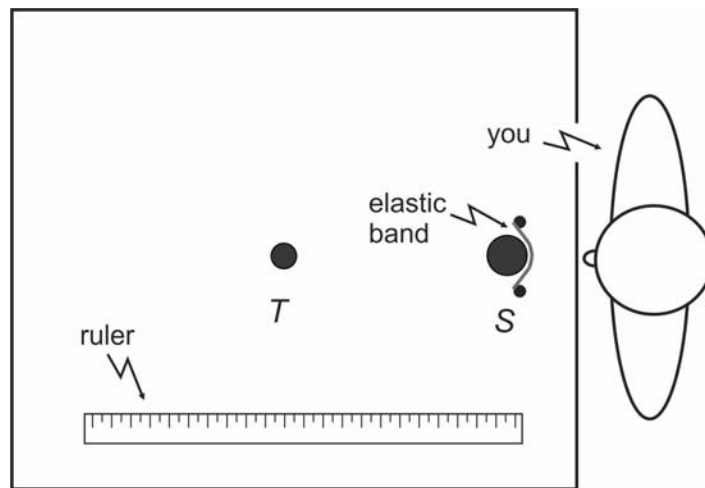

Fig. 5 Arranging the objects on the sheet of paper.
- An elastic band that is used to shoot the large disc from one of the short sides of the board towards the smaller stationary disc that is placed in the middle of the board - see **figure 5**.
2. Place the objects on the paper as in **figure 5**.